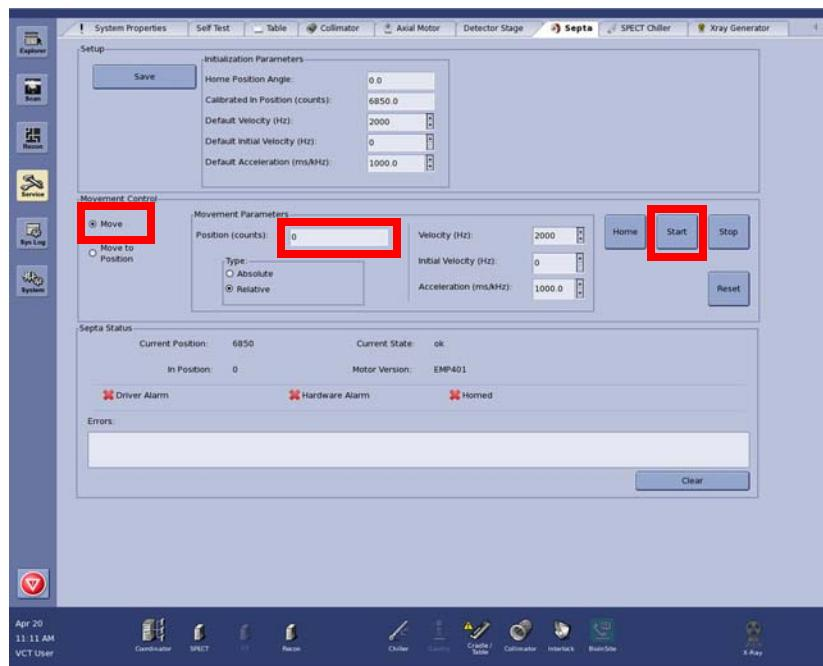

Figure 4-14
1. Move the septa toward its home position by clicking the Move radio button, entering a relative position amount and clicking Start. (Figure 4-14)